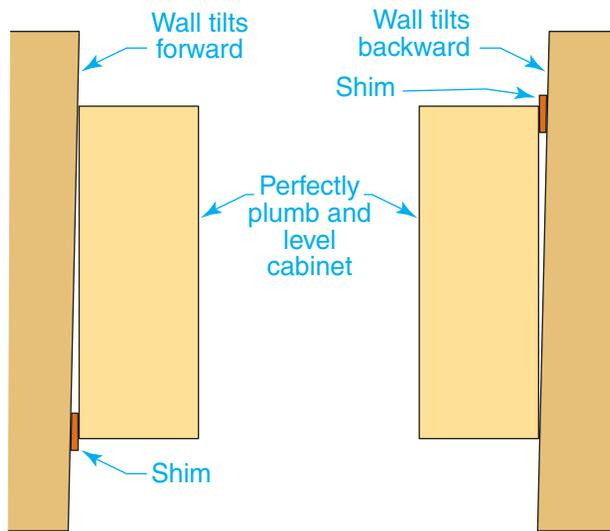

Figure 27-25 Shimming Wall Cabinets
6. Uneven walls sometimes make it difficult to obtain proper alignment and get a snug fit. If enough material is available on the back of the cabinet, the cabinet should be held in place, scribed, and cut to fit the irregular wall surface. Otherwise, it should be shimmed as shown in **Figure 27-25**. Molding can be used to cover any gaps.